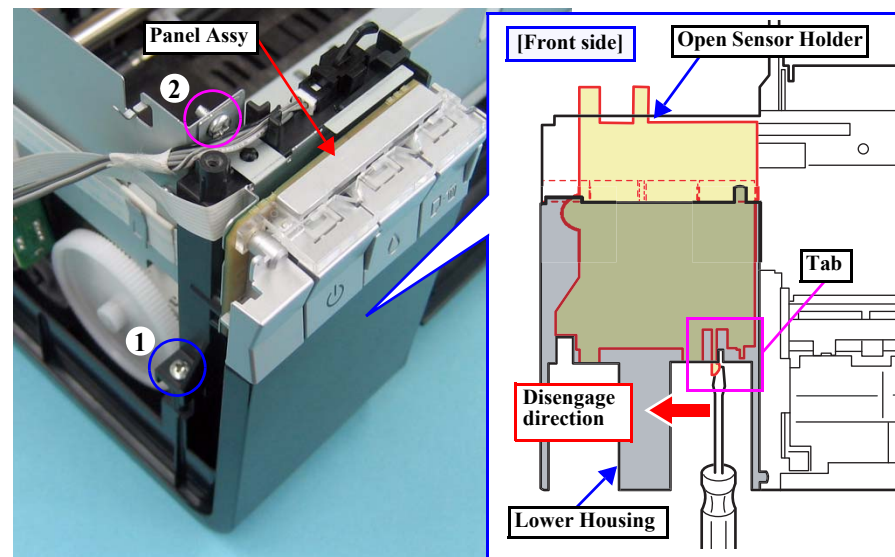
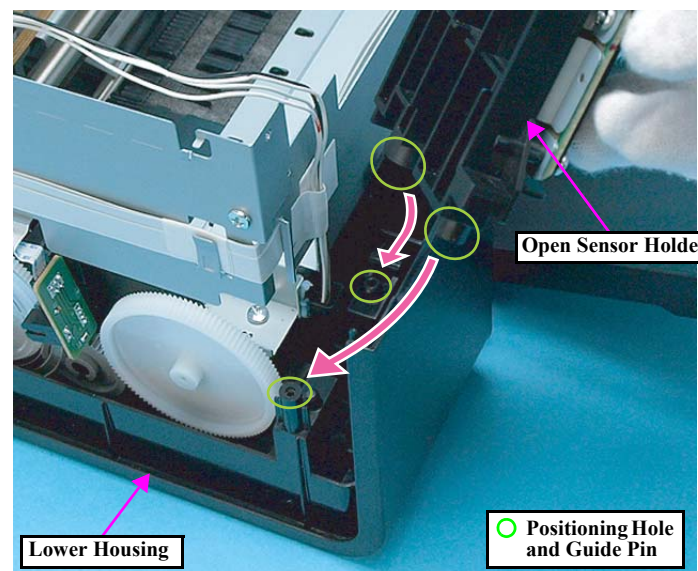

Figure 4-116. Removing the Panel Assy (2)
Figure 4-119. Installing the Panel Assy (2)
When removing the screw (2) shown in Fig.4-116, be careful not to damage the Cover Open Sensor Cable and CDR Sensor Cable.
- Tighten the screws in the order given in Fig.4-116.
- As shown in Fig.4-116 \(p.99\) and Fig.4-119, match the positioning holes of the Open Sensor Holder with the guide pins of the Lower Housing, and secure the Open Sensor Holder with the tab.